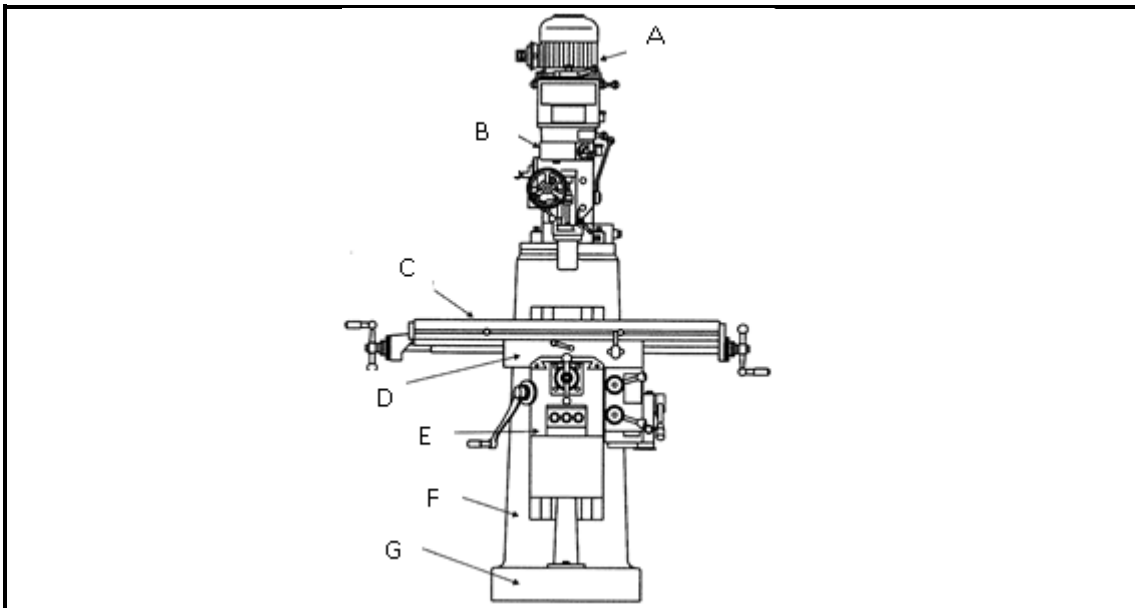

FIGURE 7
5.7 FIGURE 7 below shows a certain type of milling machine.
5.7.1 What type of milling machine is shown in FIGURE 7? (1)
5.7.2 Name any TWO machining processes that can be performed with the type of milling machine shown in FIGURE 7. (2)
5.7.3 Identify the seven components shown on the milling machine in FIGURE 7.